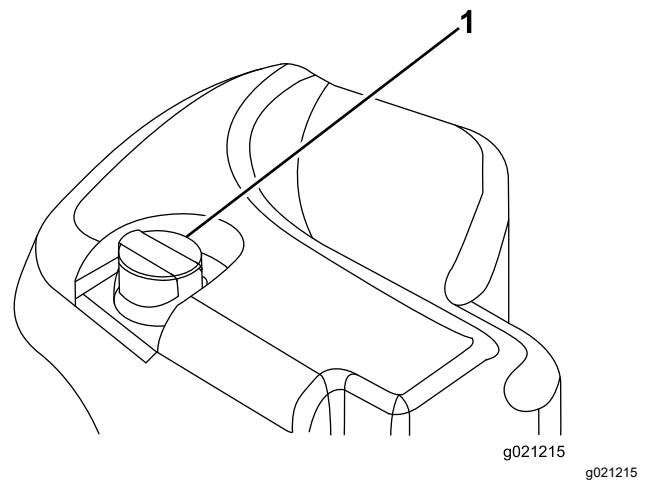

Figure 99
2. Clean the area around the filler neck and cap of the hydraulic tank (Figure 99). Remove the cap from the filler neck.